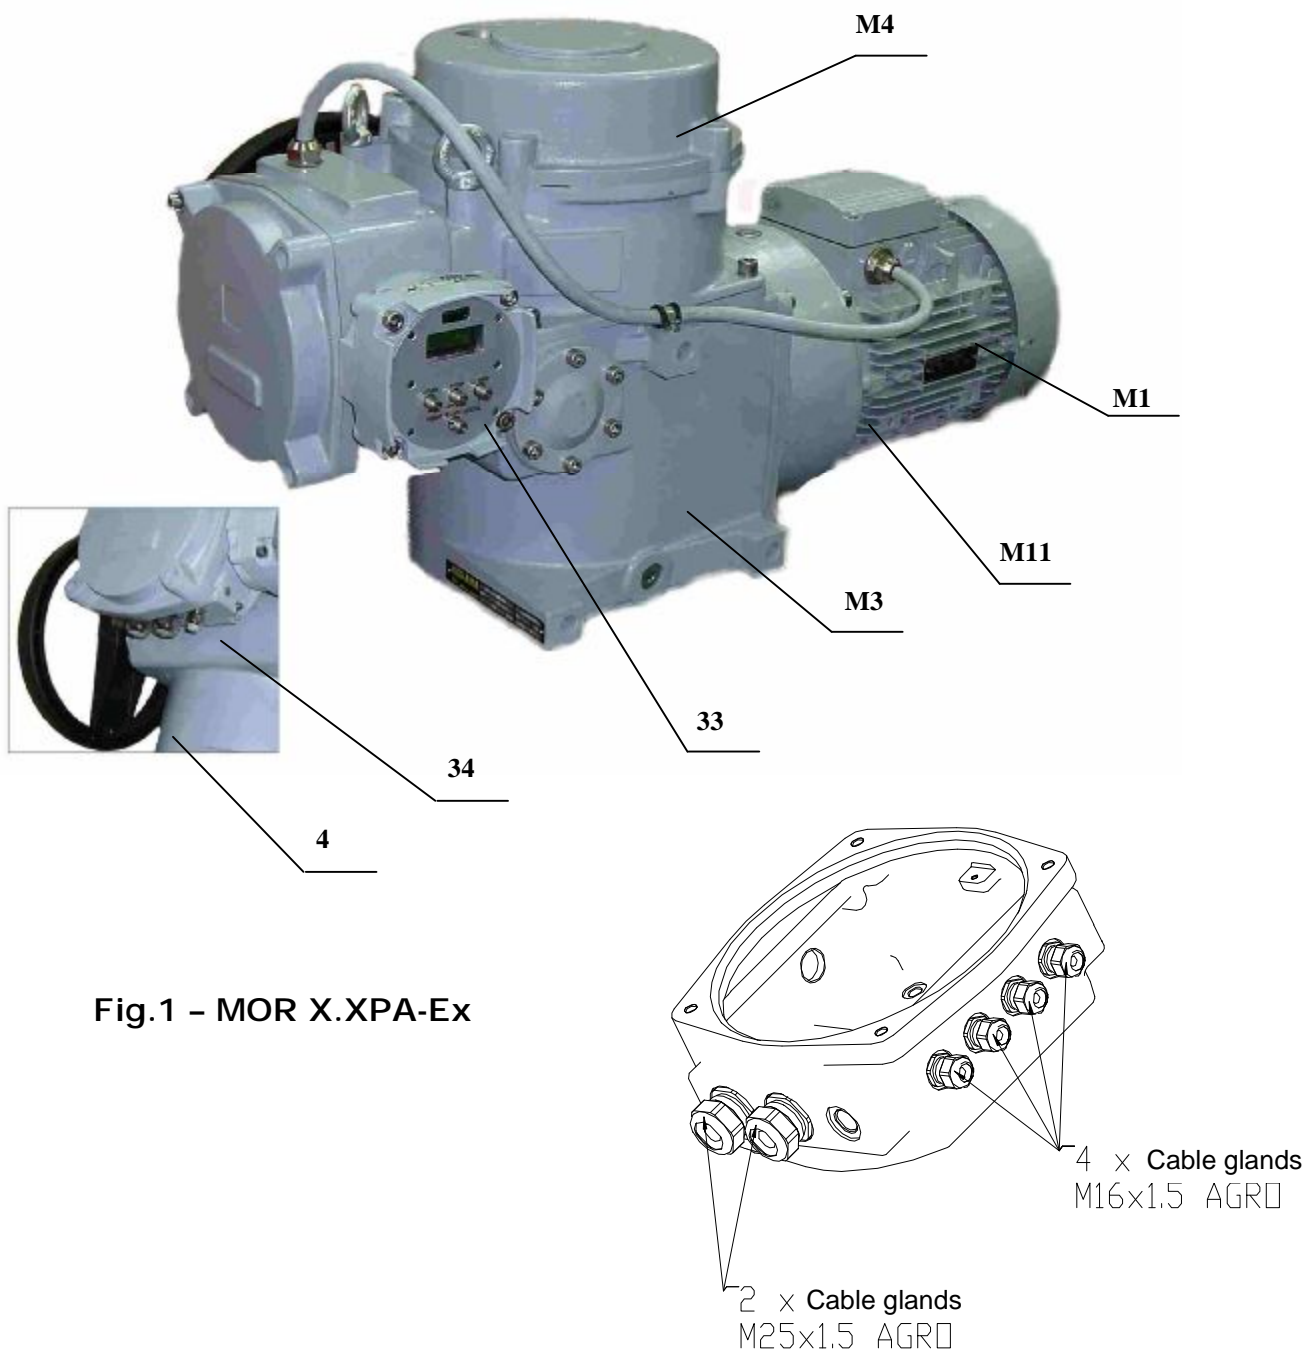

Fig.1 - MOR X.XPA-Ex
EA MOR X.XPA-Ex are of compact construction with several connected modules. They are composed of two functionally different main parts consisting of following modules (Fig.1):
Module M 4 – control box (Fig. 1)
The electric actuator is driven by an **electric motor (M1) (fig.1)** supplied and controlled from the **power supply board (9)** (fig.3, 3a) and **control unit (10)** (fig.3,3a) of the DMS3 electronics.
Manual control: made up by a handwheel with a worm gearing (4) (fig.1).
- Local electric control module equipped with a 2-line LCD display (33) (fig.1) resp. (fig. 7).